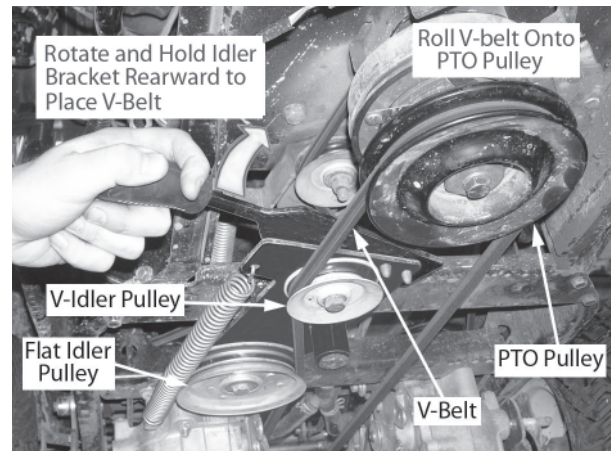

Figure 3-19
- From the left side of the tractor, roll the belt onto the PTO pulley and place the narrow side of the left run of the belt in the V-idler pulley. Refer to Figure 3-19.